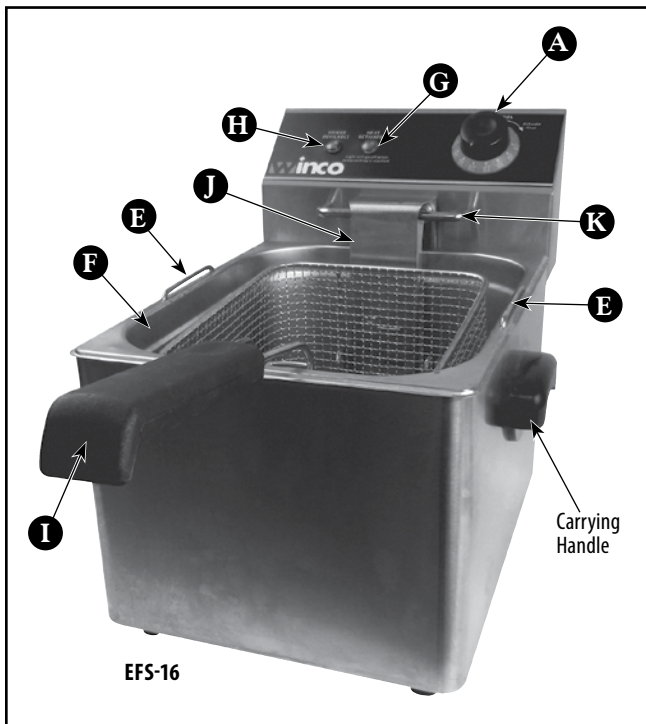

Figure 1. Features and Controls of EFS-16 & EFT-32
- A THERMOSTAT CONTROL DIAL** (Figure 1) Used to set or adjust the temperature of the oil. The numbers on the dial correspond with the oil temperature. The "0" position is off.
- E WELL LIFTING HANDLES** (Figure 1) Used to lift the well in and out of the unit for oil disposal and cleaning.
- F REMOVABLE WELL** (Figure 1) Holds the oil and is where the cooking takes place. The heating element is suspended in this component.
- G TEMPERATURE READY LIGHT** (Figure 1) This light indicates that the element is heating. Once the temperature has been reached the light will go out. Unit will continue to maintain heat and temperature with light cycling on and off.
- H POWER INDICATOR LIGHT** (Figure 1) Indicates unit is plugged in and power is on.
- I FRY BASKET ASSEMBLY** (Figures 1 & 4) With removeable handle
- J ELEMENT HOLDER VERTICAL SUPPORT BRACKET** (Figure 1)
- K BASKET SUPPORT BAR** (Figure 1)
2. Remove basket(s) (I) from fryer.
3. Fill or add oil/solid shortening to the Well (F). Always maintain oil level between High Oil Level (C) and Low Oil Level (D) as indicated on the Element Holder Vertical Support Bracket (J). (See Figure 1) **DO NOT** under-fill or over-fill.
4. Adjust the Thermostat Control Dial (A) to the desired temperature; the Temperature Ready Light (G) indicates when the elements are energized. If solid shortening is used, pack the fat around the heating element and set the temperature between 200~250°F so the fat will melt slowly as it covers the heating elements. The melted fat should not exceed the high level mark nor should it drop below the low level mark found on the Element Holder Vertical Support Bracket (J). This will reduce smoking and risk of fire.
5. Allow the oil to preheat and come up to recommended cooking temperature. The Temperature Ready Light (G) will cycle off when the oil has reached the set temperature.